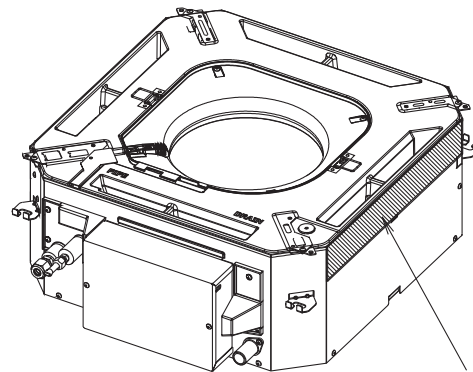

Fig.1
(1) As shown in the Fig.1, 2 and Fig.3, attach the Insulation cabinet.